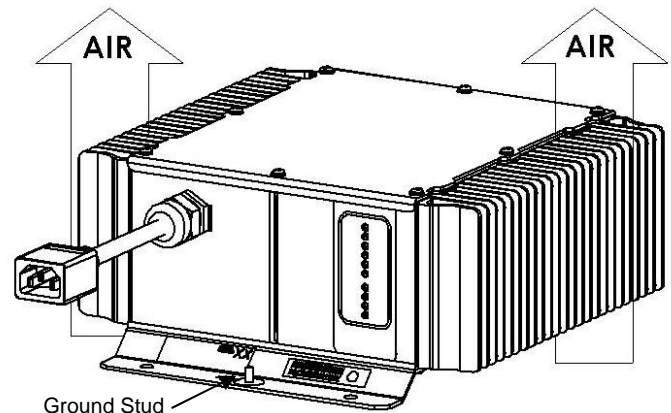

Figure 1: Charger Mounting
- 4) For UL2202 compliance, a 12AWG green bonding wire must be attached from the stud located on the charger (see Figure 1) to the vehicle frame.